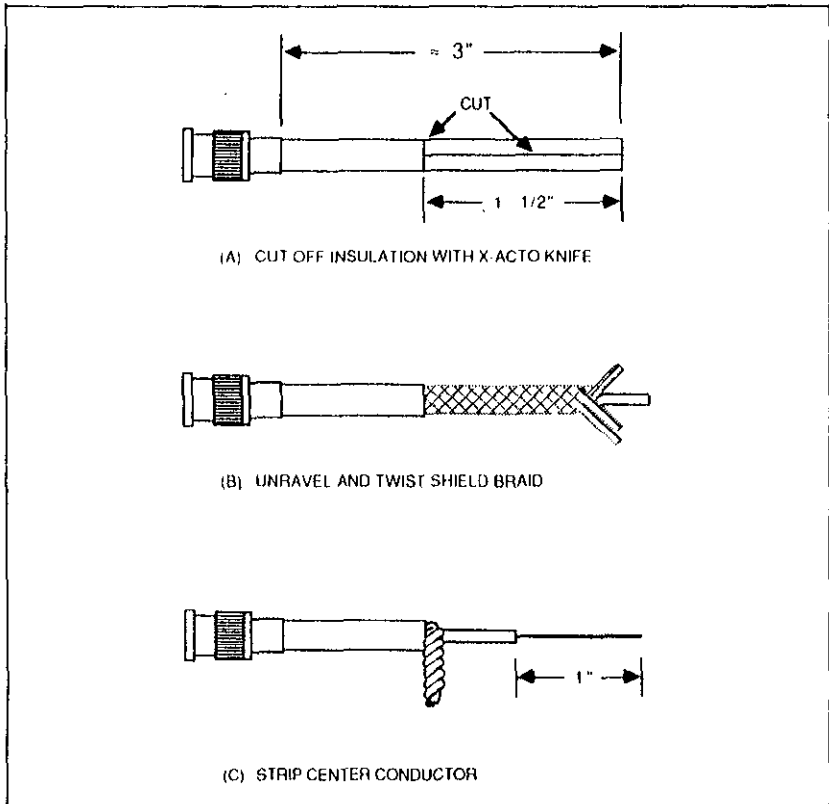

Figure 3-2. Coax Pigtail Preparation
2. Using the following procedure, prepare two BNC male connectors with coax pigtails as shown in Figure 3-2.